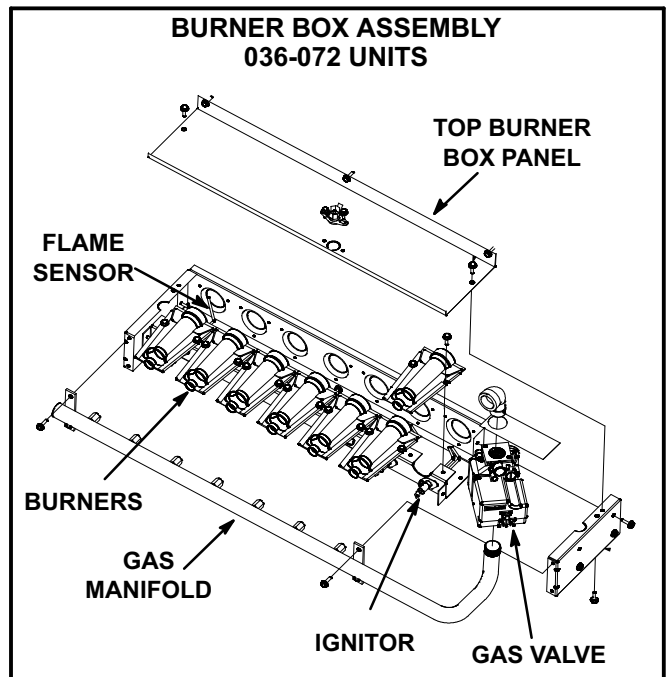

FIGURE 6
- 3- Remove two screws securing burners to burner support and lift the burners from the orifices. See figure 6. Clean as necessary. Spark gap on ignition electrode must be properly set. Refer to the Heating Adjustment section in the installation instructions.